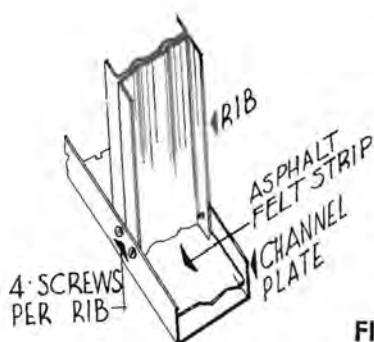
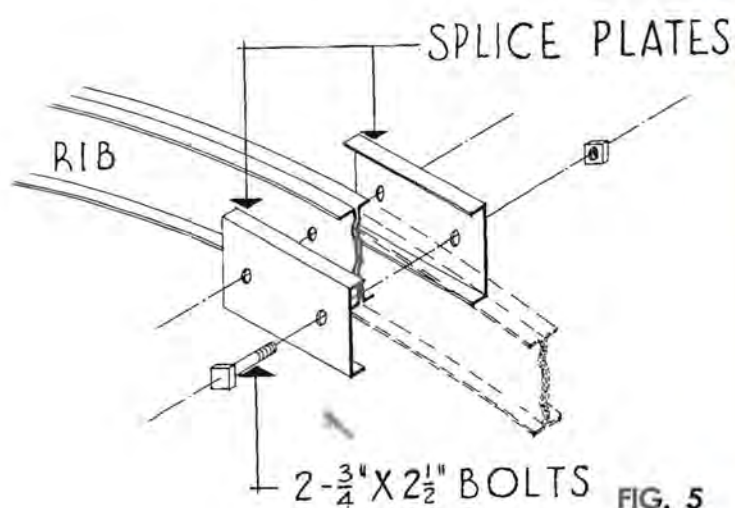

FIG. 3
FIG. 5
1. Before ribs are raised, lay 3" wide continuous asphalt strips in channel plate. (See Fig. 3.)
2. Assemble all ribs on the floor (See Photograph) before raising any. The ribs are joined at the top with two channel splice plates  $3\frac{7}{16}" \times 5"$  x No. 12 gauge Mk. B and  $2\frac{3}{4}" \times 2\frac{1}{2}"$  bolts. (See Fig. 5.) In assembling the ribs with the wood blocking take care to have the bolt head on the block side of the rib so that later work will clear. The ribs with the wood blocking will be the second ribs from each end and the blocking side should face outward. Raise one of these ribs first and secure it into the channel plate using 4 screws. (See figure 3.) Plumb and brace this rib.